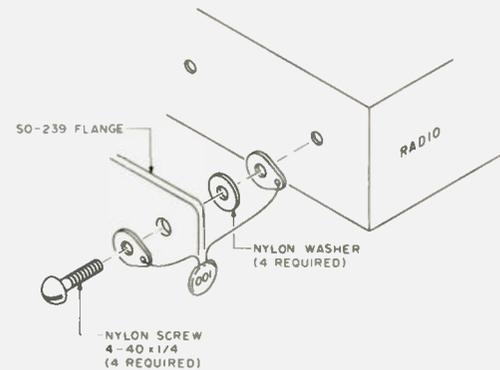

Fig. 5. Dc-isolation of standard SO-239 antenna jack.
2. Install four nylon screws through the SO-239 flange, through nylon washers, to the case. Connect the capacitor across one of the nylon washers as shown in Fig. 5.